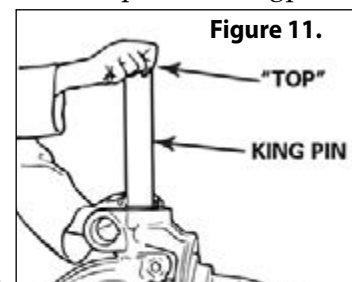

Figure 11.
3. Verify the word "TOP" on the top of the kingpin is facing toward the end of the spindle. Place kingpin into top spindle eye and slide through until 1/2-inch of kingpin comes out the bottom. Place shims onto the bottom of the kingpin (Fig. 11).
The number of wear washers varies according to the frame width set by the distance between the frame hangers (Figure 11).